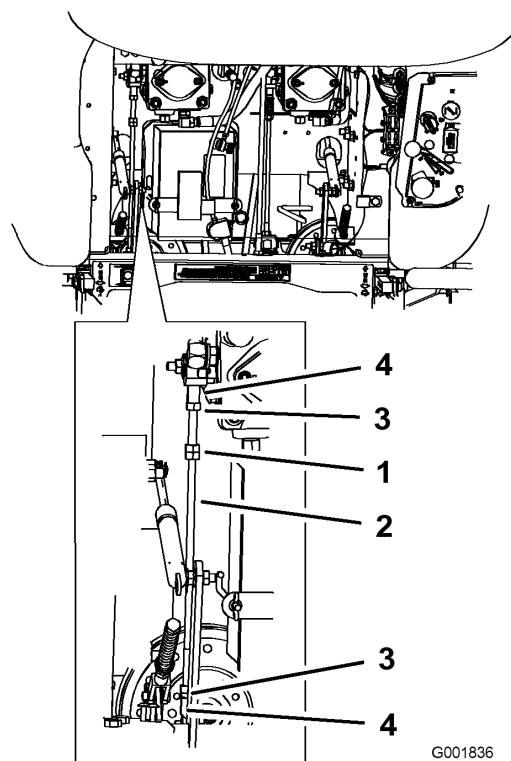

Figure 59
3. Adjust the pump rod length by rotating double nuts on the rod, in the appropriate direction, until the wheel is still or slightly creeps in reverse (Figure 59).
6. Tighten the locknuts at the ball joints (Figure 59).
1. Loosen the locknuts at the ball joints on the pump control rod (Figure 59).